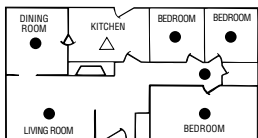
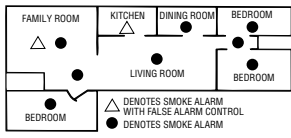

FIGURE 1
FIGURE 2
- Do install a smoke alarm in the hallway outside of every bedroom area. If the bedroom has a door, there must be a smoke alarm inside and outside the bedroom. See Figure 1. If your home or residence has two bedroom areas, a smoke alarm must be placed outside the second bedroom area, and inside the bedroom(s) if they have doors. See Figure 2.